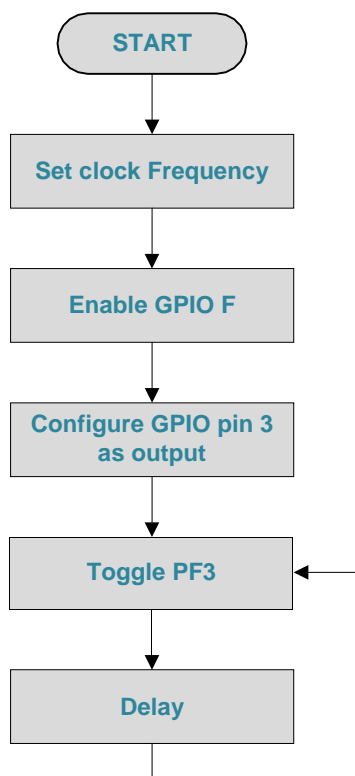

Figure 1-3 Flowchart for Blinking an Onboard LED
The flowchart for the code is shown in Figure 1-3. The software written in C configures and enables the system clock to 40MHz. It then enables GPIO Port F of EK-TM4C123GXL and configures pin 3 (PF3) as output. A HIGH output at the GPIO PF3 turns the green LED ON connected to it and a LOW output turns the LED OFF. Hence, to blink the LED, the output is toggled at regular time interval using a while (1) loop. The time interval between the LED turning ON and OFF can be programmed by specifying the delay count value in the SysCtlDelay() function.